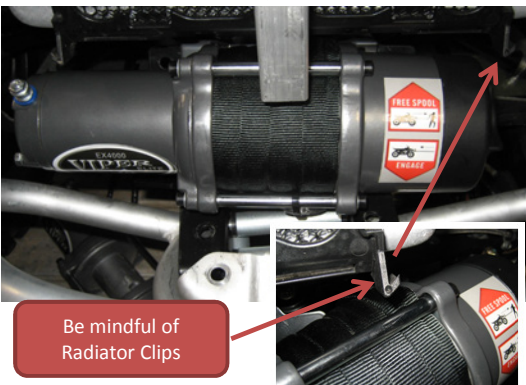

Figure 20
- Position the Viper winch between the bumper and ATV with the mount holes facing the mounting bracket. Be mindful of the radiator clips shown in Figure 20 as you install the winch.